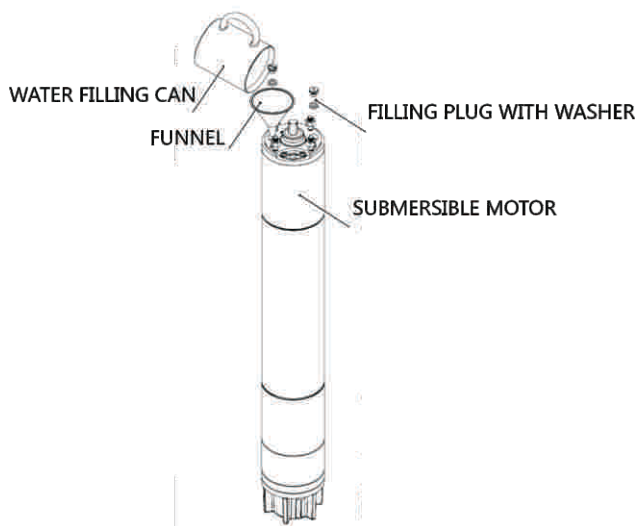

Fig. 4 Topping up the 100 mm Submersible Motor with Pure Drinking Water
- The two threaded plugs provided at the top are removed as shown in Fig.4 below.